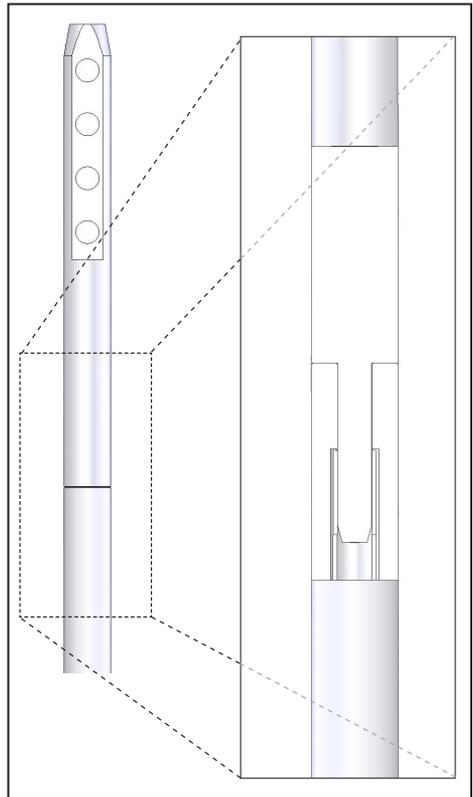

Figure 1: Fully inserted shaft (no gap)
4. Make sure the rotational shaft is fully inserted. When inserting the shaft, make sure to push past the initial point of resistance. If the shaft is not fully inserted, it will not be able to rotate properly and you will get poor measurements. *See Figure 1.*